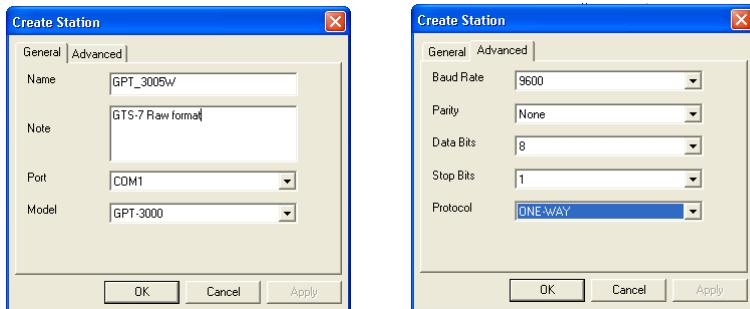

Figure 2-20. Total Station Properties
3. In the *Advanced* tab of the **Create Station** dialog box, enter the baud rate, parity, data bits, stop bits, and protocol used for communication with the TS (Figure 2-20).